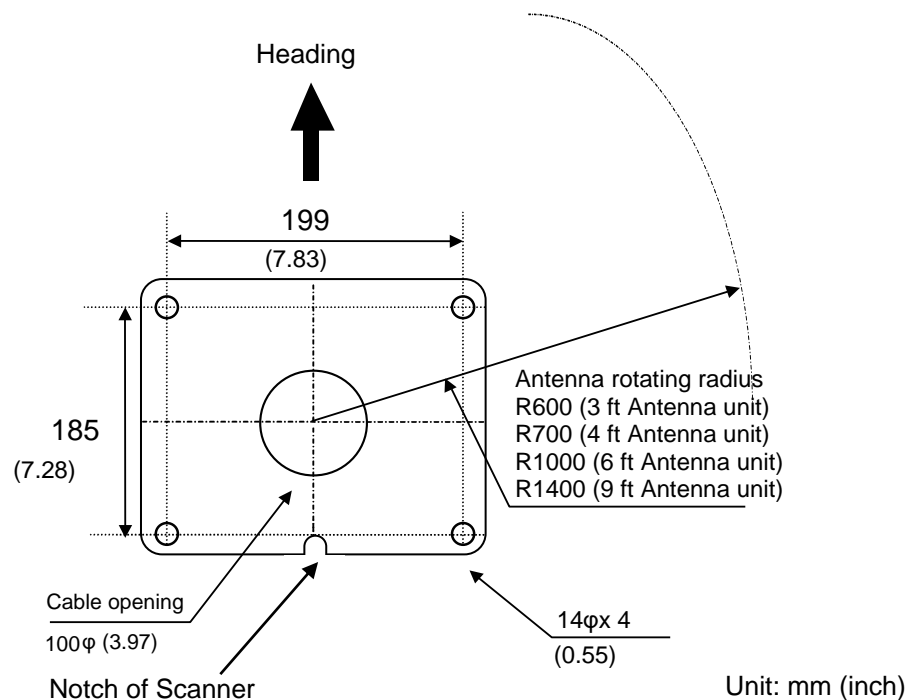

Figure 3.1 Plain view of mounting hole
The Antenna Scanner unit is equipped to orient the notch of the attachment to stern as shown in Figure 3.1. Installation in this way eases maintenance work. Also refer to the consideration on equipment shown in 1.4.1.
- (1) Four mounting holes 14 mm in diameter are located on the mounting platform with reference to Figure 3.1.
- (2) The Antenna Scanner unit is secured with four 12 mm stainless steel bolts contained in installation material.